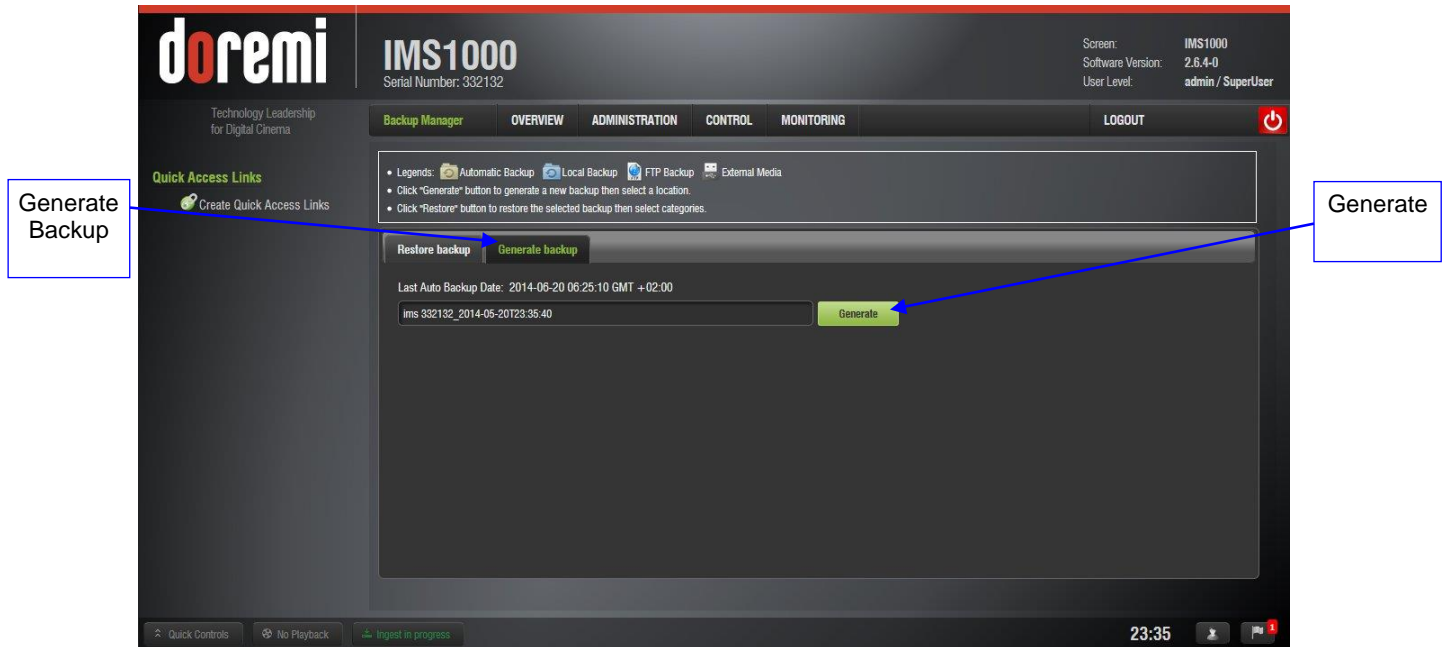

Figure 196: Backup
- To manually back up the material on the hard drive, click on the Generate Backup tab (Figure 196).
- Click on Generate (Figure 196).
- Click on Generate Backup tab and click on the Generate button (Figure 196).